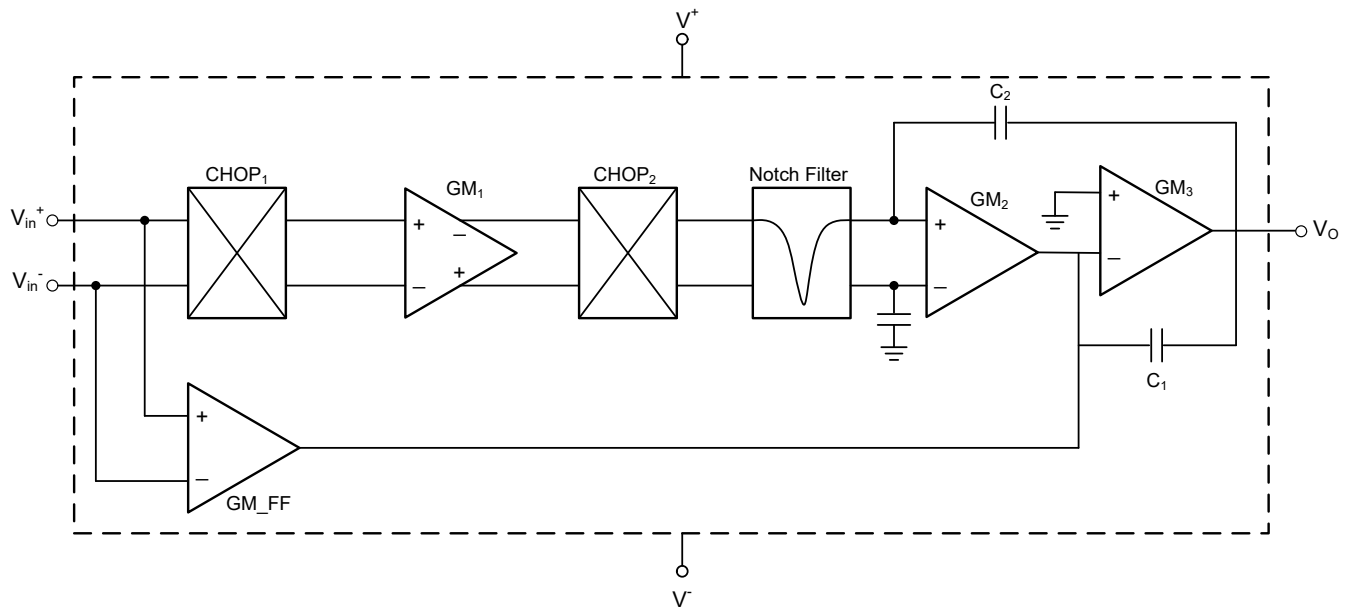

Figure 6-6. Chopper Functional Block Diagram
New-generation choppers are dramatically quieter, incorporating a switched-capacitor filter with multiple notches aligned with the chopping frequency and its odd harmonics, while the high frequency input signal bypasses chopping (DC) stage all together using fast-forward (GM_FF) stage – see Figure 6-6. A superior filtering is accomplished by integrating a charge for a full clock cycle before transferring its charge to the next stage of the op amp. Integrated over a full up-down cycle, its net value is zero. In the frequency domain, this creates a $\text{sinc}(x)$ or $\text{sin}(x)/x$ filter response with nulls that precisely align with the fundamental and all harmonics of the triangle wave. Since $1/f$ (flicker) noise is merely a slow time-varying offset voltage, choppers virtually eliminate this increased noise-spectral density in the low-frequency range. The chopping shifts the baseband signal to the chopping frequency beyond the input stage's $1/f$ region. Thus, the low-frequency signal range of choppers has a noise-spectral density equal to that of the amplifier's broadband frequency noise.